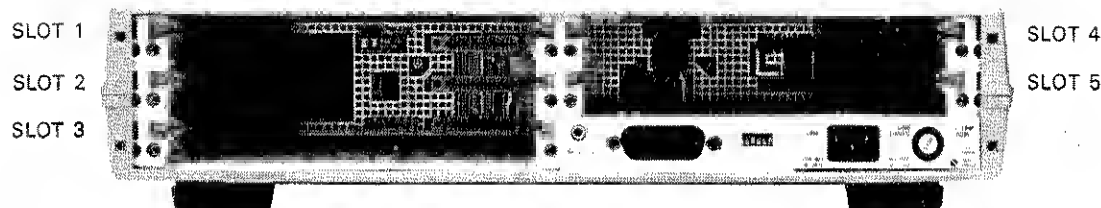

Figure 4. HP 3488A Rear Panel; Available Module Slots.
3. Determine the slot in which you will install the module. Figure 4 illustrates the five slots that are available for installing modules. You can install the HP 44476 in any one of the five slots.